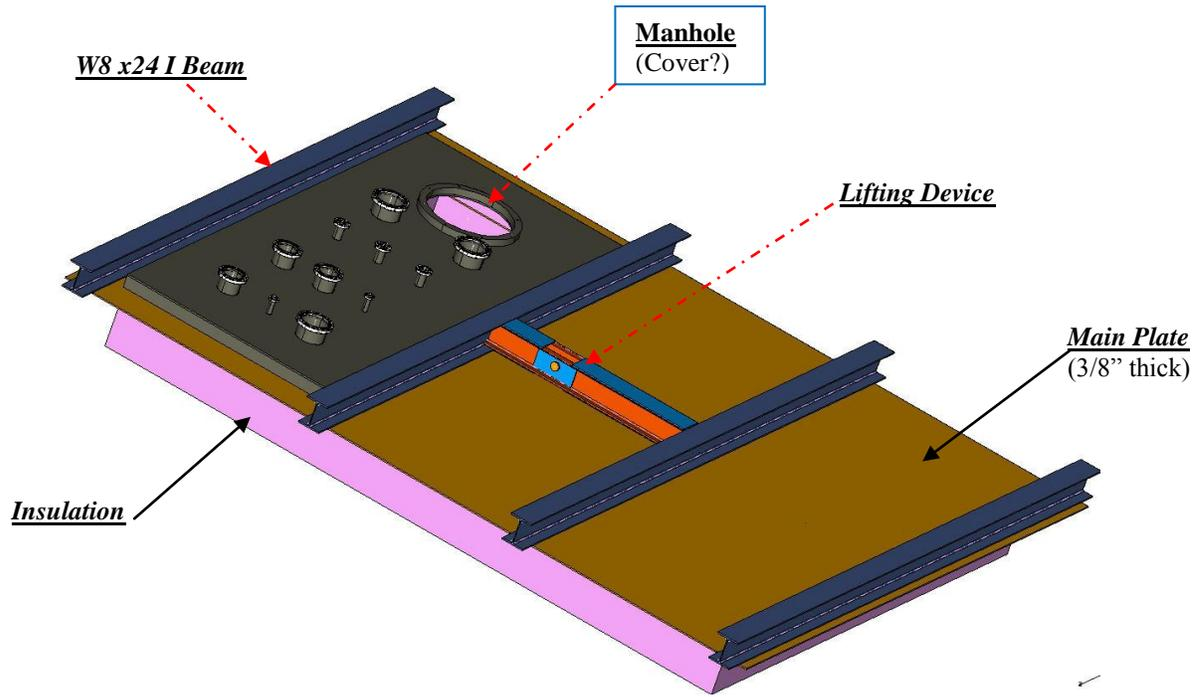
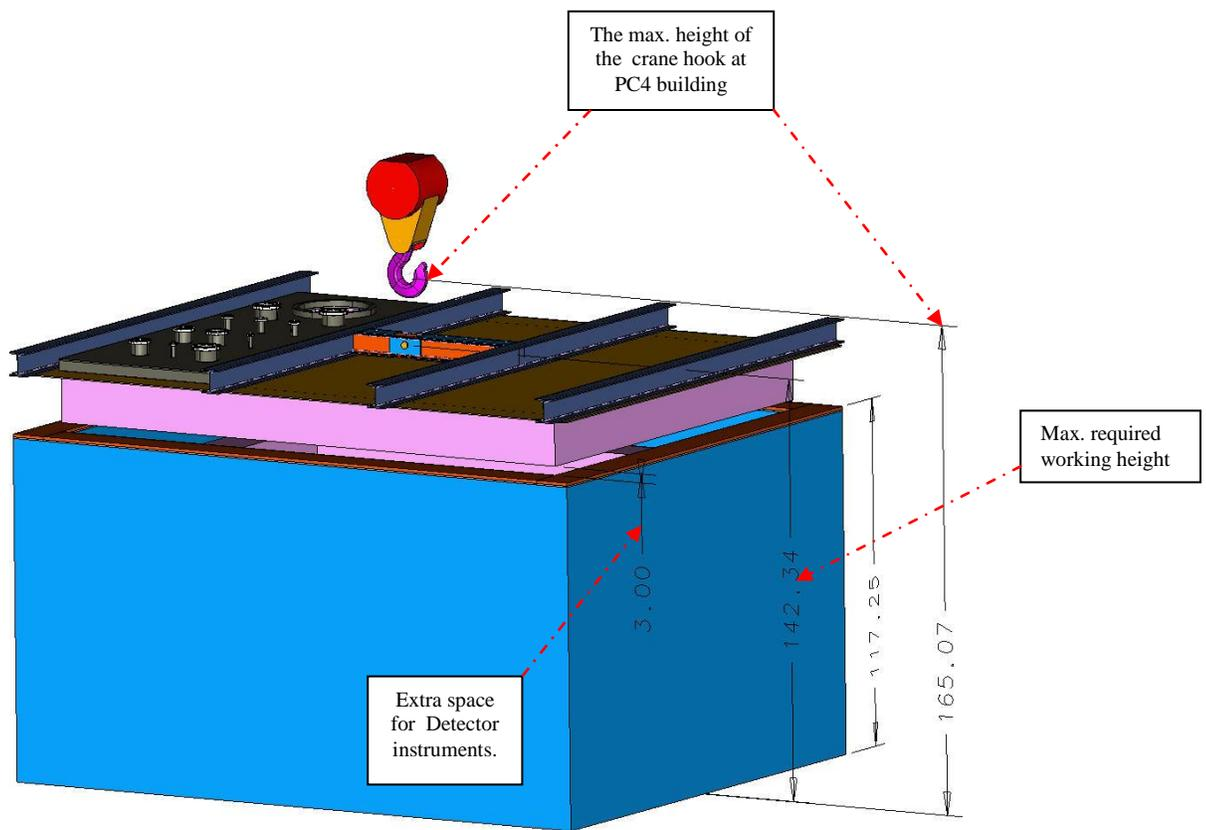
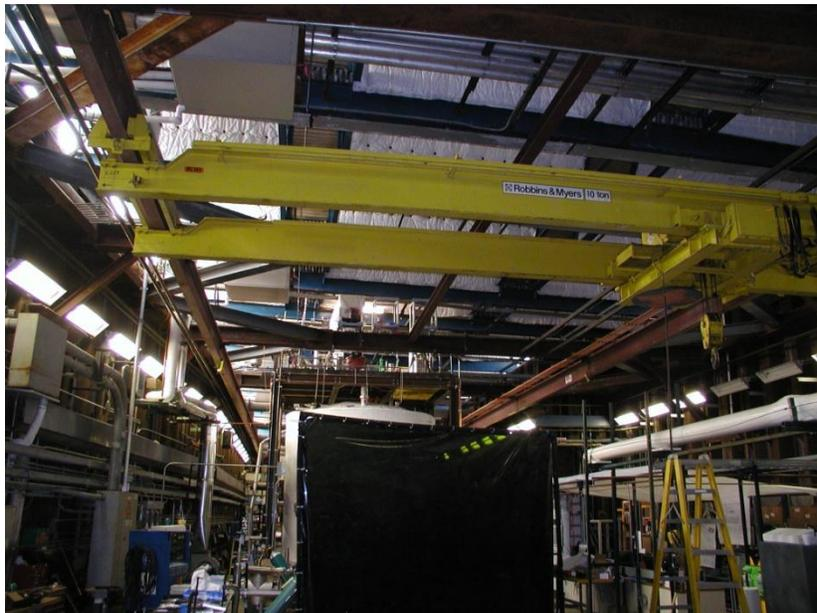

Figure 3, The view of the LBNE 35 ton prototype top structures
Figure 4, The maximum crane height vs. the max. workable lifting height.
Figure 6, View of crane from PC4 building.
(See figure 3 of page 5)
- Figure 3 showing the main configurations of the top structures.
- There will be a problem for the final installation because of the restriction of the maximum crane height in PC 4 (See figure 6), the lifting device showing from figure 3 and figure 4 has addressed such issue directly.